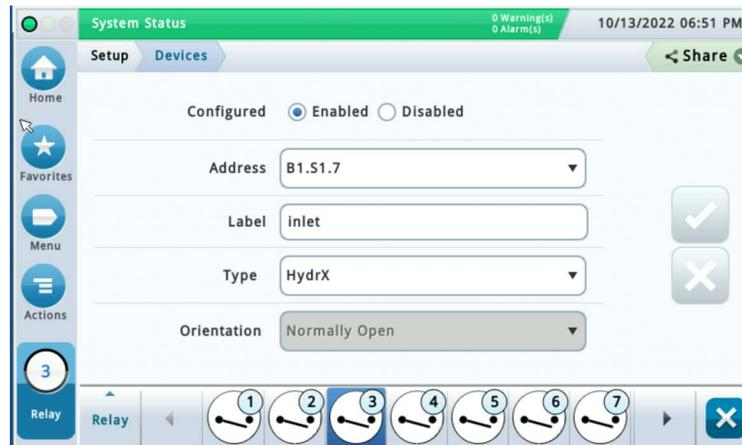

Figure 6. Relay Setup Screen
1. Touch **Menu>Setup>Devices** and touch the Relay button (see Item 4, Figure 1) to open the Relay Setup screen. Select the Relay connected to the HydrX Inlet Valve, e.g., Relay 3 in Figure 6